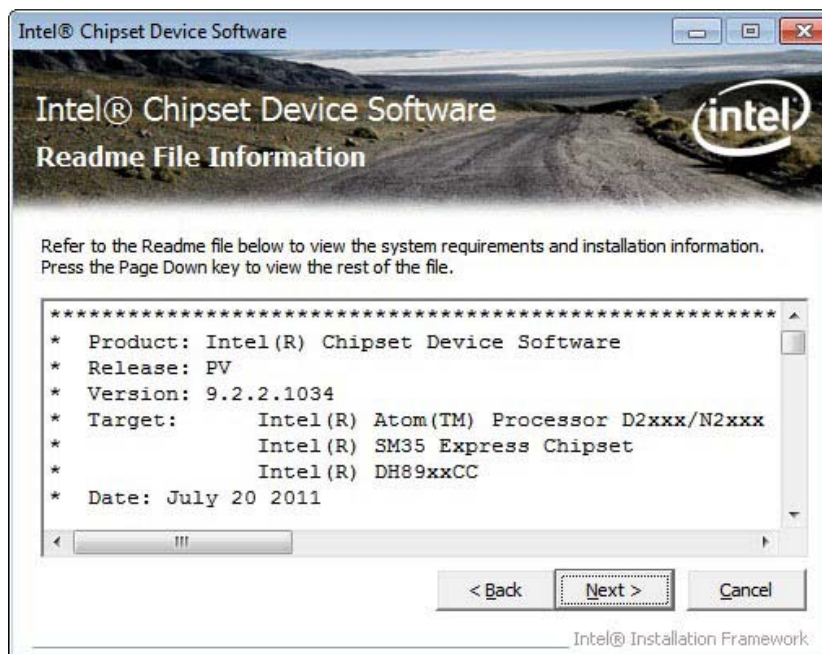

Figure 6-4: Chipset Driver Read Me File
Step 12: The Read Me file in **Figure 6-4** appears.